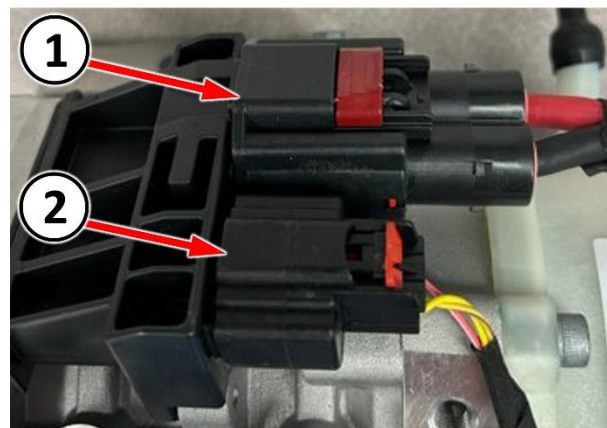

Figure B7 – Electrical Connectors
16. Disconnect the electrical connectors from the EHPS pump if not already done so, by sliding red CPA back and de-pressing connector latch (Figure B7).